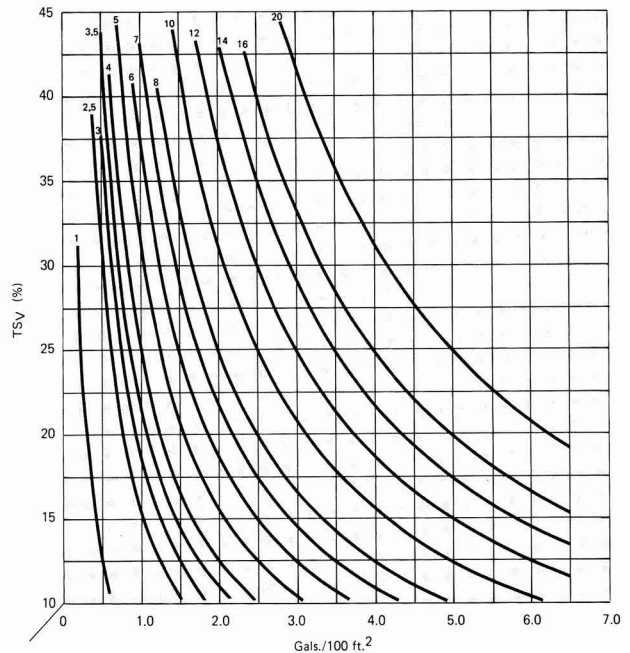

Figure 1—Coating solids by volume at different coverage rates to yield selected values of dry film thickness in mils
With equation (4), we can construct Figure 1, which shows the relationship between these three properties. Figure 1, coating solids by volume at different coverage rates to yield selected values of